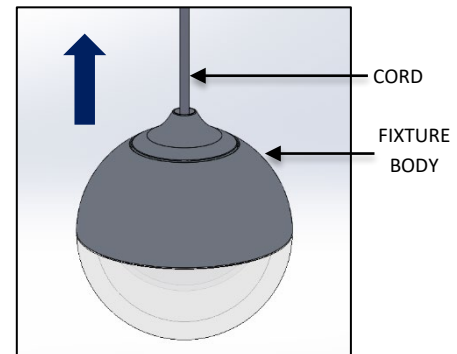

FIG. 13 – FIXTURE INSTALLATION
2. Raise the GLOWBALL FIXTURE as shown below in FIG. 13 to assemble to the MOUNTING BRACKET.